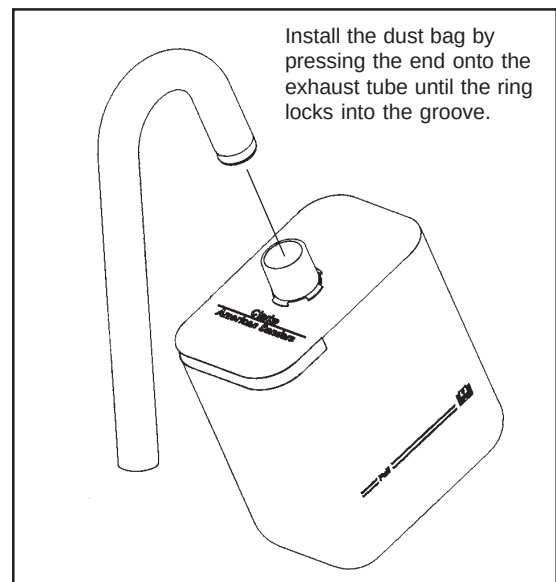

Figure 10
- Install the dust bag by pressing the end onto the exhaust tube until the ring locks into the groove (figure 10). This is best done by pressing on the back of the bag opening with the palm of your hand.